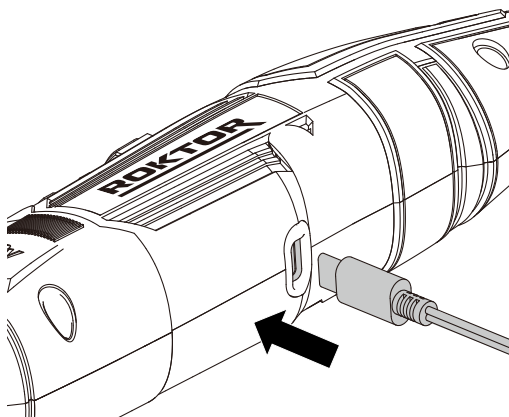

Figure 1
1. CHARGING THE BATTERY (SEE FIG. 1)